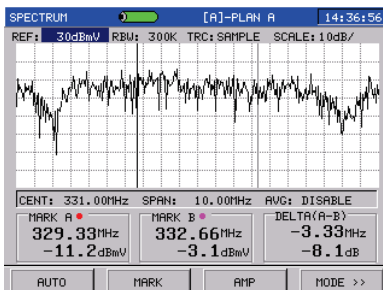

Figure3-2-5
**SPECTRUM(F1):** Press SPECTRUM soft key to spectrum function as Figure3-2-5.